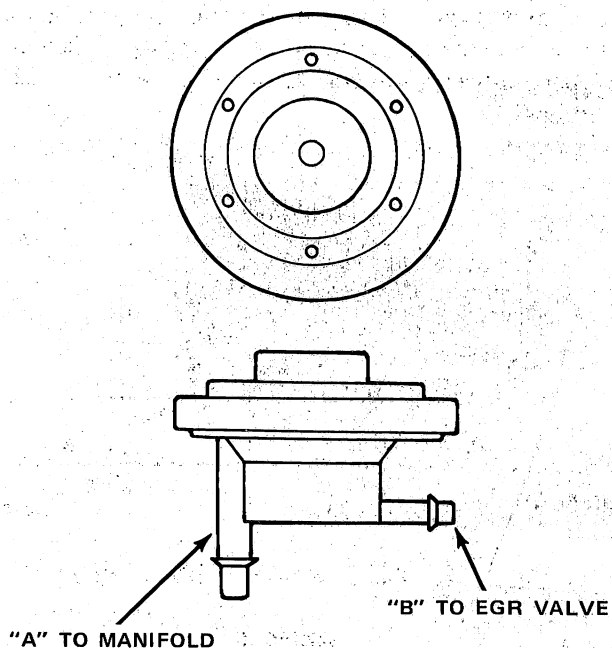

Fig. 1J-144 EGR Vacuum Dump Valve
(1) Connect manifold vacuum hose to port "A" (fig. 1J-144).
(2) Connect EGR valve vacuum hose to port "B" (fig. 1J-144).